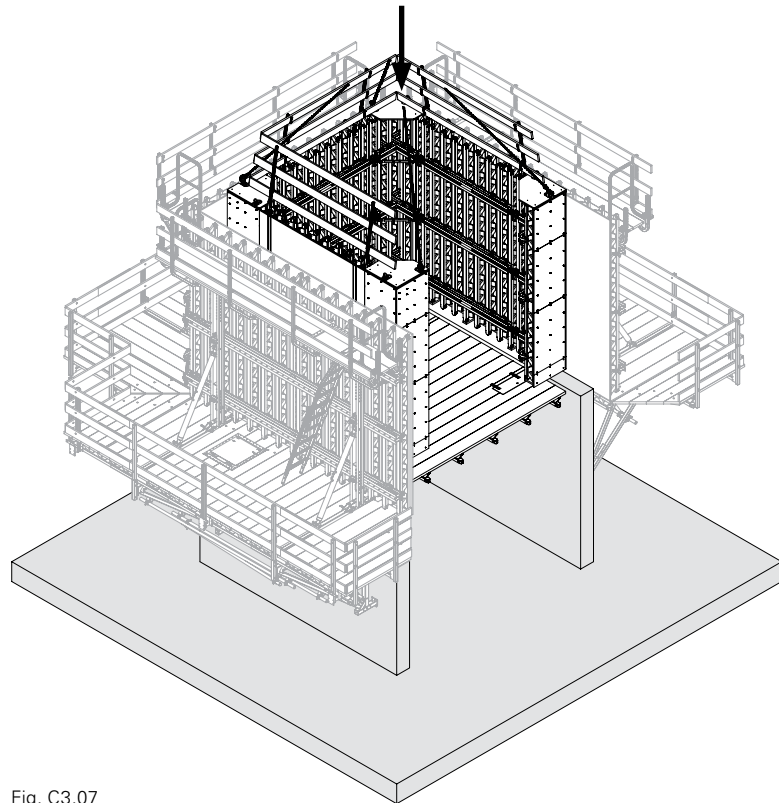

Fig. C3.07
4. Fly in the internal formwork. (Fig. C3.07)